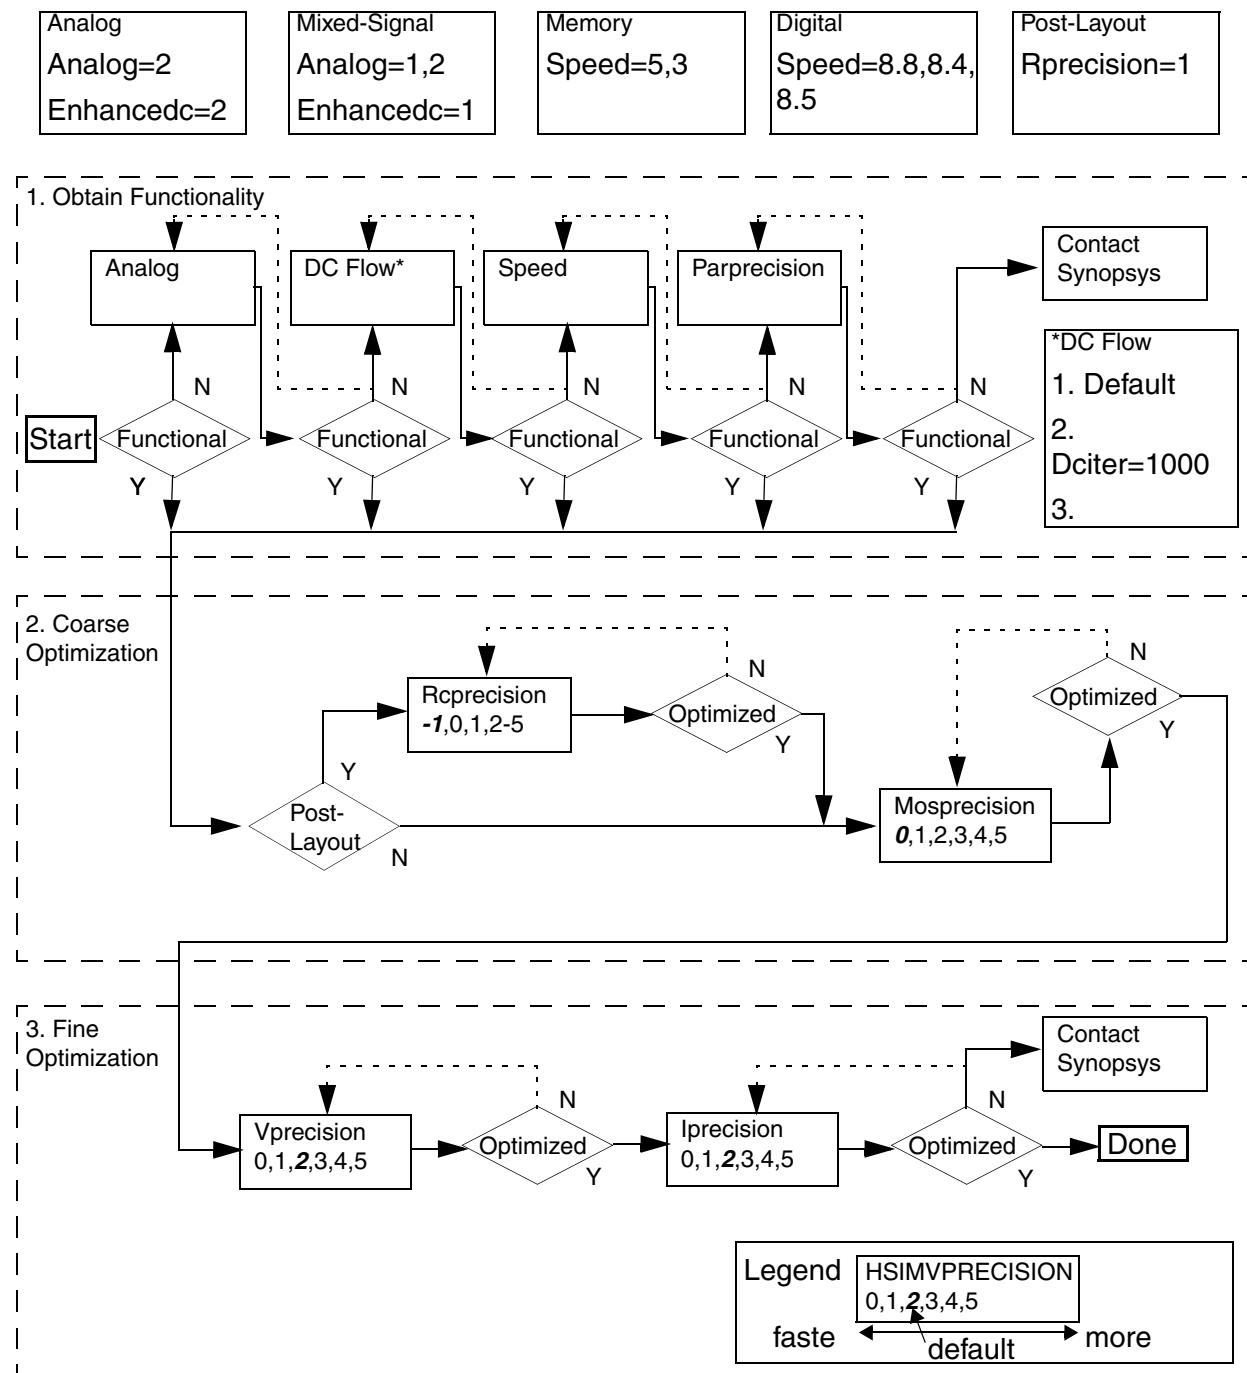

Figure 2 HSIM Performance/Precision Settings
The HSIM Quick Start provides a means to quickly and easily get a design running in HSIM by applying a set of appropriate values for the simulation. Figure 2 on page 14 describes how to apply the correct commands and values to achieve the performance/precision trade-offs for analog, mixed-signal, memory, digital, and post-layout designs.
2. If your simulation is not functional or optimized using the initial settings, see the settings in Figure 2 on page 14 with dotted lines pointing to them. Adjust the values for the commands to achieve the desired performance/precision required for your design.
Note: The command boxes in the flow chart in Figure 2 on page 14 shows the options available to the commands. Command values indicate the default in *bold italic* and read from *left to right* increases precision. For ease of reading, the HSIM prefix has been omitted, thus the HSIM prefix must be applied to all commands identified in the flow chart. For example, PARPRECISION must be inserted into the simulation deck as HSIMPARPRECISION.
In Figure 2 on page 14, the MOSPRECISION default is 0; 0 should provide the highest performance and the available values to set are 0,1, 2, 3, 4, and 5, with 5 providing the highest precision.